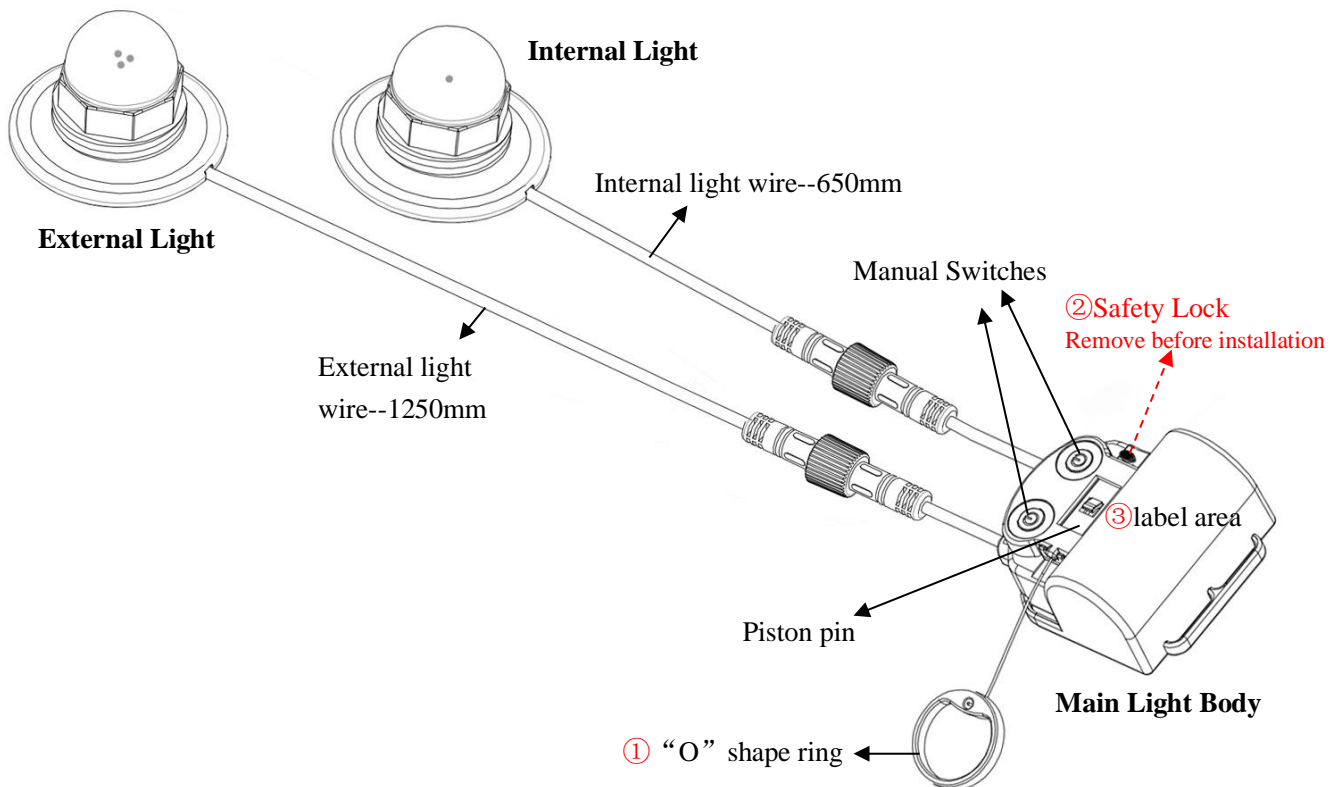

Figure 2-1 Product Structure
LNK-LR-02C liferaft light is lithium battery-powered emergency light to be installed with liferaft. When the liferaft is inflated and "O" shape ring on the light (① of Figure2-1) will be pulled out, then both of external and internal lights will be automatically activated. The external light installed on the top of liferaft will output >4.3cd light intensity flashing signal to indicate the position of liferaft for rescue. The internal light inside of liferaft output adequate steady light with 0.5cd light intensity for basic illuminating such as reading instructions. Both of external and internal light can be separately turn on or turn off by the manual switches on the light`s main body. The light has especially excellent performance at low temperature, which the external light can work at least 18hours over 4.3cd light intensity even at -30℃ !
The structure is shown as below Figure2-1:
2.4.1.1 Marking Label will be fixed at Position"③ in Figure2-1" on the light`s main body.
- 3.2.6 Main Light body should be installed at the proper place inside liferaft. On the one hand, the "O" shape(① in Figure2-1) ring should be fixed tightly with a suitable part of liferaft by cord, And make sure the ring must be pulled out when the liferaft is inflated. On the other hand, should make sure the manual switches on the main light body can be easily reached after the light activated.